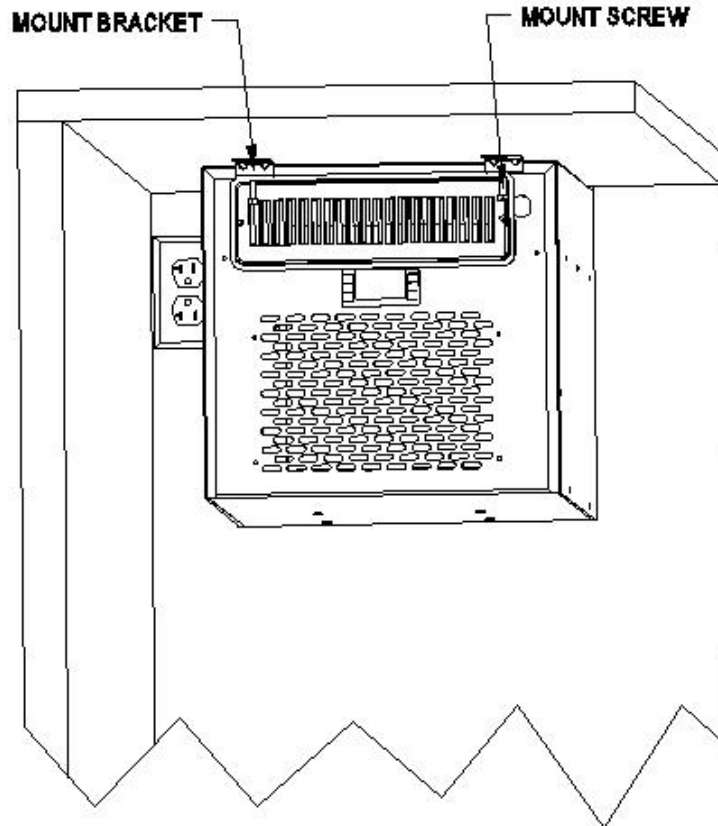

Fig. 2.6 FASTENING BRACKET & SCREW
- Fasten the 2 brackets and use 7/16" wrench to tighten the two ¼" screws (see Fig 2.6).